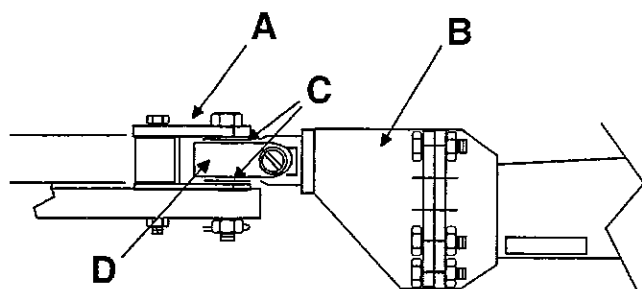

Figure 1.05: Drawbar Installation
When hooking the harvester to the tractor, refer to Figure 1.05 and the procedures below.
8. Attach the harvester to the tractor with yoke weldment (Figure 1.05-A) and bolts provided. Be sure to install the hardened washers (C) between the yoke (A) and the hitch clevis (D). The existing tractor clevis may be used if a 3" spacing can be maintained. Install hardened washers (C) to shim the hitch clevis (D) so that it is snug. If the tractor drawbar mounting hole is smaller than 1-3/8", an 1-1/4" pin is available from your Art's-Way Dealer (AW Part Number 456220). If the tractor drawbar mounting hole is larger than 1-7/16", a bushing should be installed.
9. Cycle the lift cylinder and observe the lift height. Position the front bolt-on hitch (Figure 1.05-B) to obtain the desired lift height, while still allowing adequate penetration into the ground.